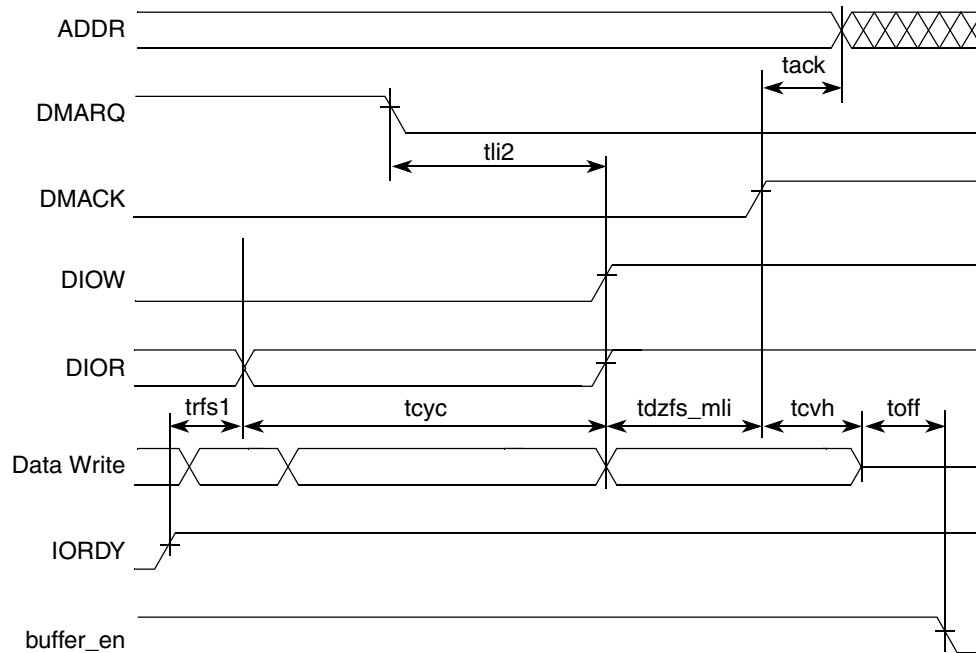

Figure 33. UDMA Out Device Terminates Transfer
- Figure 33 gives timing for device terminating UDMA out transfer.